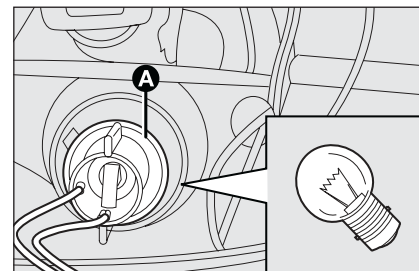

fig. 23
- turn the bulb holder **A**-fig. 23 counter-clockwise and remove it;